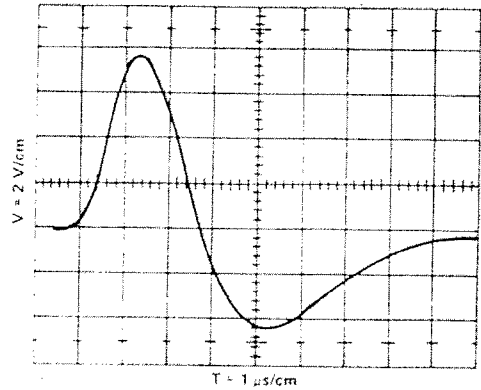

Figure 5 Bipolar Output Pulse
4. Leaving all other settings the same, switch the 485 output to bipolar. The output pulse should look something like that in Figure 5 (you may have to adjust the oscilloscope triggering).